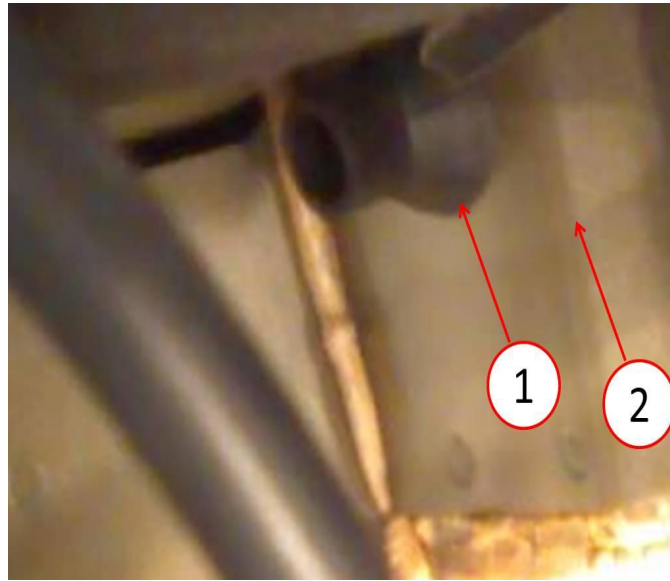

Fig. 8 Drain Tube Grommet Seated
3. Position a mirror behind the right strut tower and verify the grommet is properly seated against the bulkhead(Fig. 8).